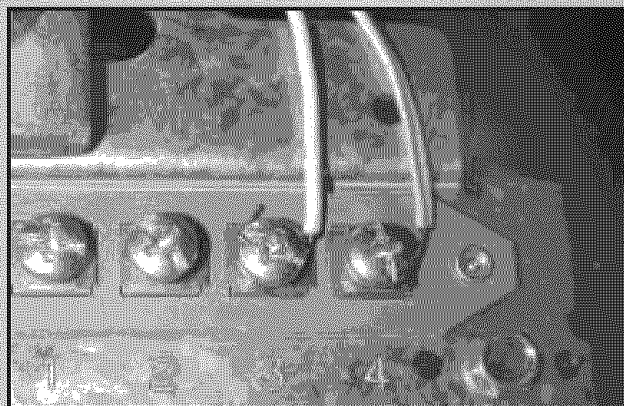

Fig. 3-8
- STBs are connected to terminals #3 and #4 on power head **Fig. 3-8**. It does not matter which wire, white or striped, goes on which terminal.